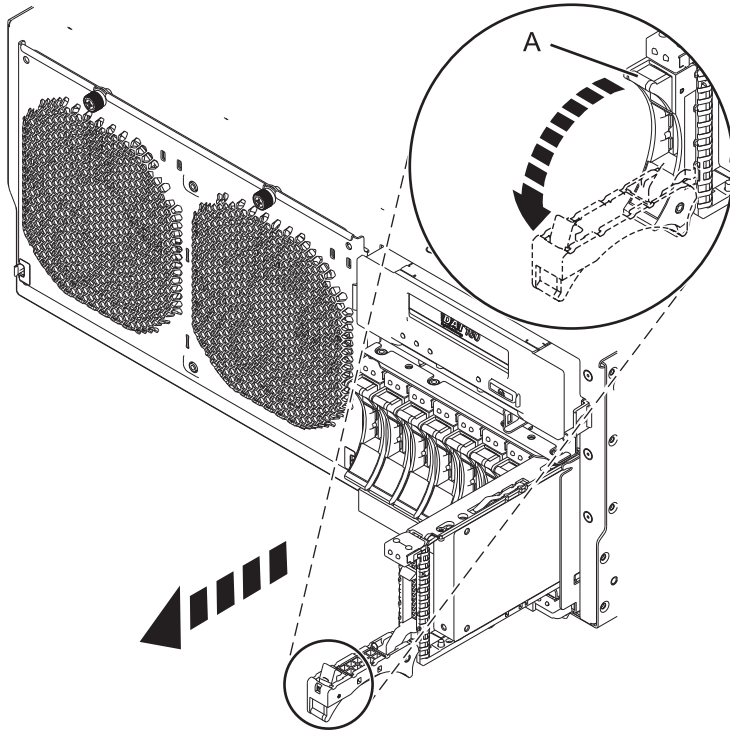

Figure 27. Removing a disk drive from the 8202-E4B, 8202-E4C, 8205-E6B, or 8205-E6C
1. Unlock the disk drive handle by squeezing it and pulling it out toward you, as shown in Figure 27 on page 55.